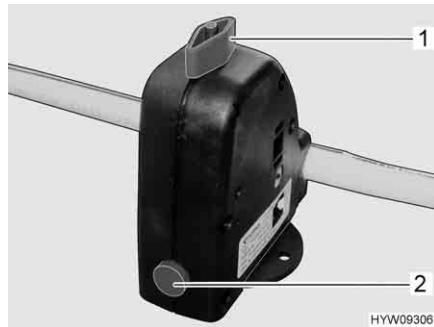

Fig. 193 Safety/drainage valve (boiler)
The boiler is equipped with a safety/drainage valve (Fig. 193). The safety/drainage valve prevents water in the boiler from freezing, when there is frost and the heater is not switched on.
- Close the safety/drainage valve. Turn the knob (Fig. 193,1) perpendicular to the safety/drainage valve and push the push button (Fig. 193,2) in.
- Open the safety/drainage valve. To do this turn the knob (Fig. 193,1) parallel to the safety/drainage valve. The push button (Fig. 193,2) jumps out. The boiler is drained to the outside by the safety/drainage valve.